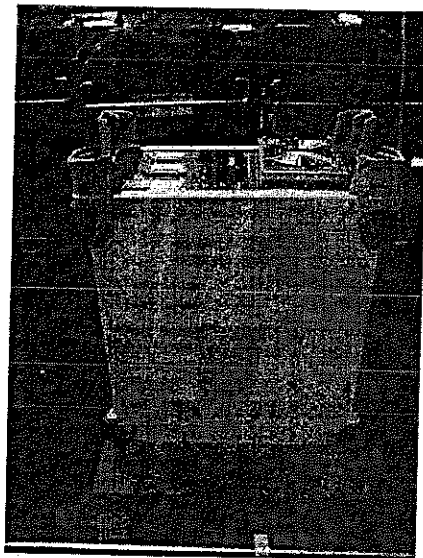

Figure 5-4 Removal of Main Case
2. Stand R3267/3273 on the soft cushion face to down refers to Figure 5-4.